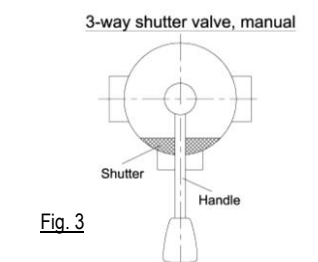
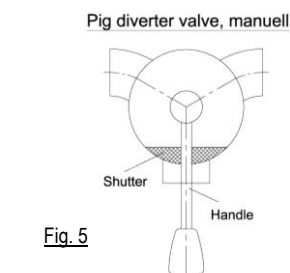

Fig. 3
Fig. 5
- With the manual 3-way shutter / pig diverter valve, the handle direction indicates the shutter position (see Figure 3 and Figure 5)